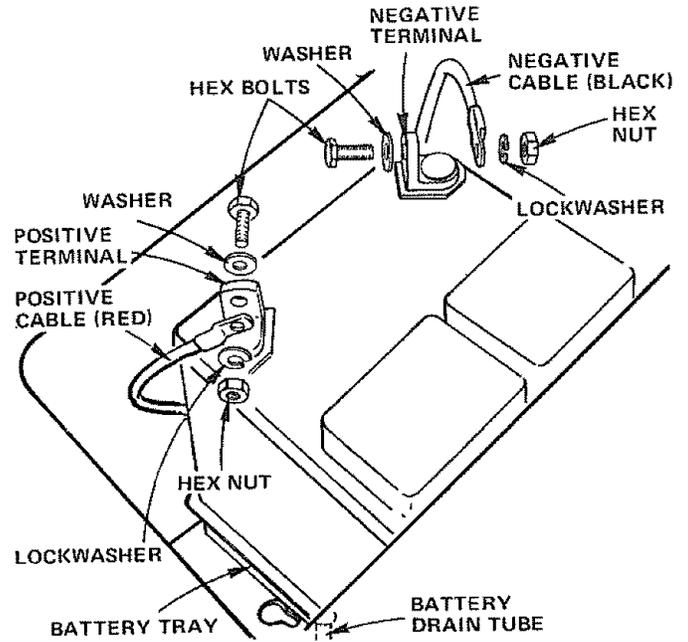

FIGURE 6
- Lower battery into fender well with battery terminals toward front of tractor (Fig. 4). Make sure battery rests in battery tray (Fig. 6).
c. Connect RED battery cable to positive (+) battery terminal with hex bolt, flat washer, lockwasher and hex nut (shown full size below) found in bag of parts (Fig. 6). Tighten securely with two 7/16" wrenches.
d. Connect BLACK ground cable to negative (-) battery terminal with remaining hex bolt, flat washer, lockwasher and hex nut (shown full size below) found in bag of parts (Fig. 6). Tighten securely.